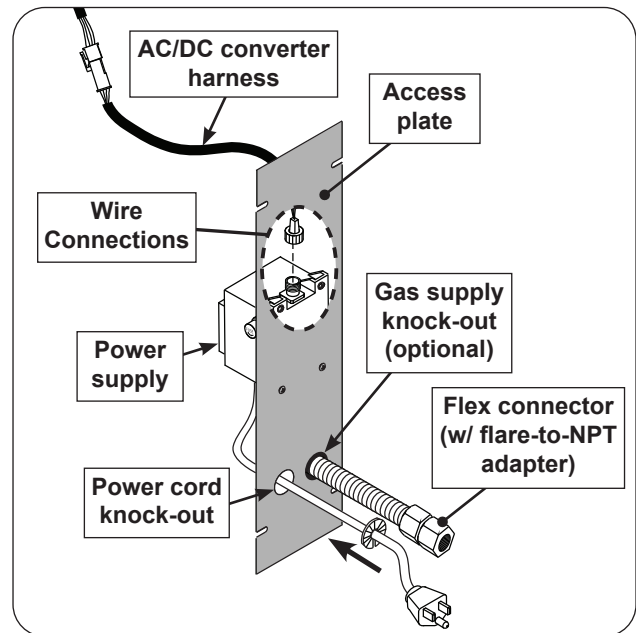

Fig. 26-1 Access plate view & install orientation
A power supply is pre-mounted to the access plate. For ease of installation, disconnect the converter harness from the power supply. Locate the wires coming from the inside of the post to the power supply and carefully disconnect (see Fig. 26-1 and 26-2).
4. Install the bushing onto the power cord and slide the bushing up against the access plate knock-out hole and snap into place. See Fig. 26-1.
2. Remove the plastic grommet (attached to the flex connector) and insert it into the newly created opening. Then route the flex connector through the opening. See Fig. 26-1 and 26-2.